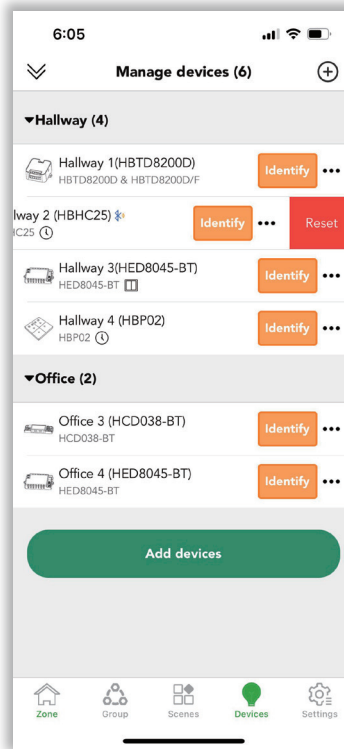

Figure 1.1 Reset-1
1. Users can select the device which they would like to reset and slide to the left side to "reset" (see figure 1.1).